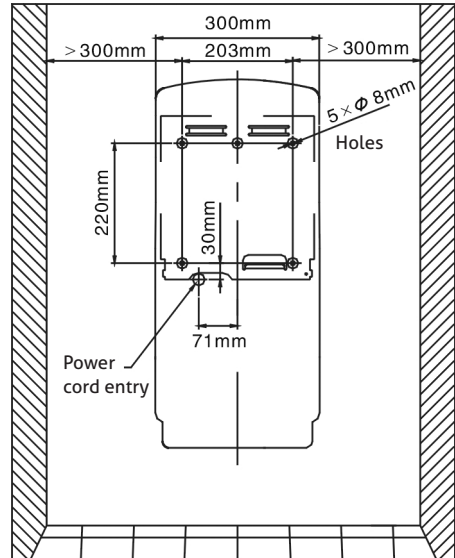

Figure 3
2. Place template against wall at desired height (see RECOMMENDED MOUNTING HEIGHTS) and mark locations of 5 mounting holes and power cord entry at knockout location (see fig.3).